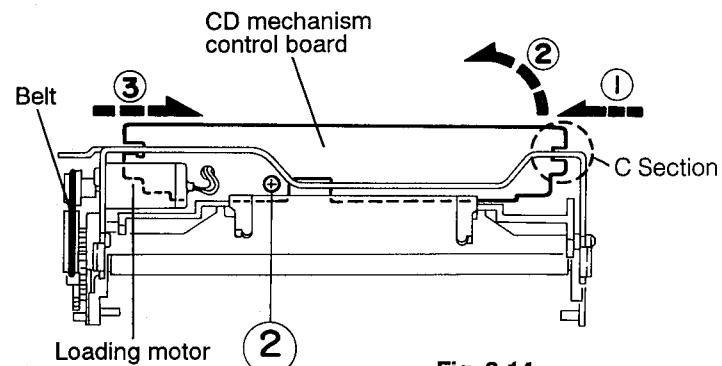

Fig. 2-14
8. Remove the one screw ② retaining the CD mechanism control P. C. board (See Fig. 2-14).
9. After disengaging the engagement between the notch section ④ and frame, remove the CD mechanism control P. C. board successively from arrow ① through to arrow ③ in the arrow direction as shown in Fig. 2-14.
1. Remove the belt from the loading motor (See Figs. 2-14 and 2-15).